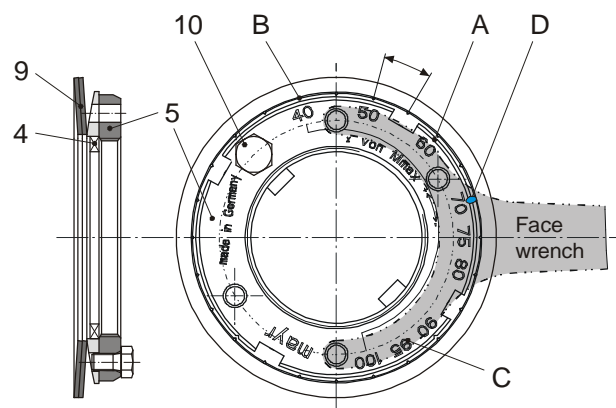
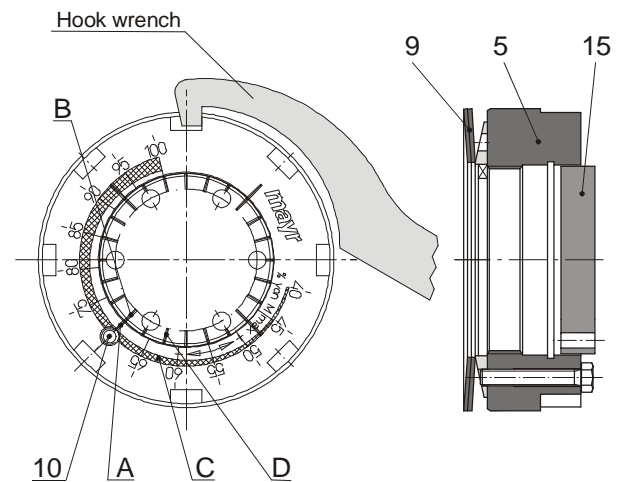

Fig. 8
Fig. 11
You should be facing the adjusting nut (5) as shown in Fig. 8 and Fig. 11.
d) The required torque results from the marking (D) overlap on the locking ring (4) and the percent value (C) on the adjusting nut (5), see Fig. 8.
e) Paint the hexagon head screw (10) with Loctite 243 and turn it into the adjusting nut (5); the 4 notches (A) in the adjusting nut (5) and the notches (B) in the locking ring (4) must be in the same position (Fig. 8). Slight corrections may be necessary.
**Open** the adjusting nut (5) using the facing-side graduation (Fig. 8) **anti-clockwise** using a face wrench and adjust from 70 % to 80 %.
**Close** the adjusting nut (5) using the facing-side graduation (Fig. 8) **clockwise** using a face wrench and adjust from 70 % to 60 %.
- b) Loosen the hexagon head screw (10) in the adjusting nut (5).
c) Turn the adjusting nut (5) using the engraved adjustment scale (Fig. 11) clockwise or anti-clockwise using a hook wrench until the required torque is reached.
d) The required torque results from the marking (D) overlap on the gauge cover (15) and the percent value (C) on the adjusting nut (5), see Fig. 11.
e) Paint the hexagon head screw (10) with Loctite 243 and turn it into the adjusting nut (5); the 4 notches (A) in the adjusting nut (5) and the notches (B) in the gauge cover (15) must be in the same position (Fig. 11). Slight corrections may be necessary.
**Open** the adjusting nut (5) using the facing-side graduation (Fig. 11) **anti-clockwise** using a hook wrench and adjust from 70 % to 80 %.
**Close** the adjusting nut (5) using the facing-side graduation (Fig. 11) **clockwise** using a hook wrench and adjust from 70 % to 60 %.